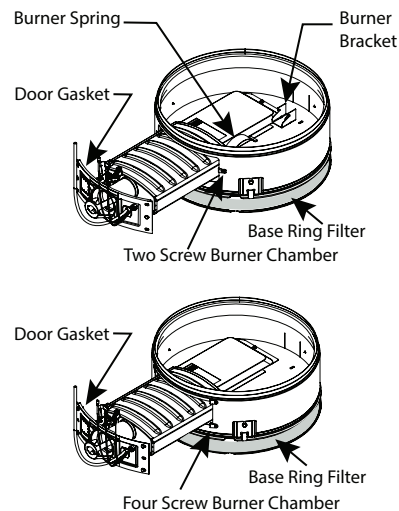

Figure 51 - Installing the burner assembly.
- 3 Insert the burner assembly into the burner compartment, making sure that the burner assembly sits firmly against the burner bracket and spring (if equipped) inside the combustion chamber. See Figure 51.